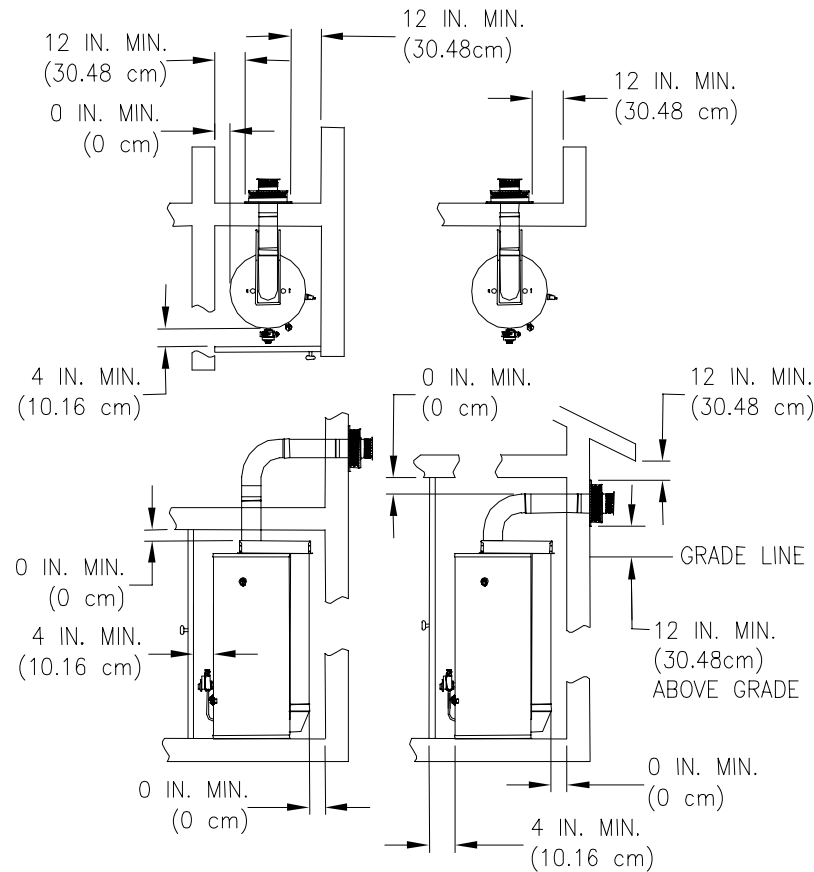

Figure 1
This installation shall allow access to the front of the water heater and adequate clearance shall be provided for servicing and operating this water heater. The water heater may be installed on either a combustible or non-combustible floor. If the water heater is to be installed directly on carpeting, it shall be installed on top of a metal or wood panel extending beyond the full width and depth of the appliance by at least three (3) inches (76.2 mm) in any direction or, if the appliance is to be installed in an alcove or closet, the entire floor shall be covered by the panel. The minimum clearances to combustibles for this water heater is: zero (0) inch (0 cm) from the sides and rear, four (4) inches (10.2 cm) from the front of the jacket, zero (0) inch (0 cm) from the plenum, zero (0) inch (0 cm) from the air intake elbow and telescopic tubes and twelve (12) inches (30.5 cm) from the direct vent-air intake terminal. (See Figure 1).